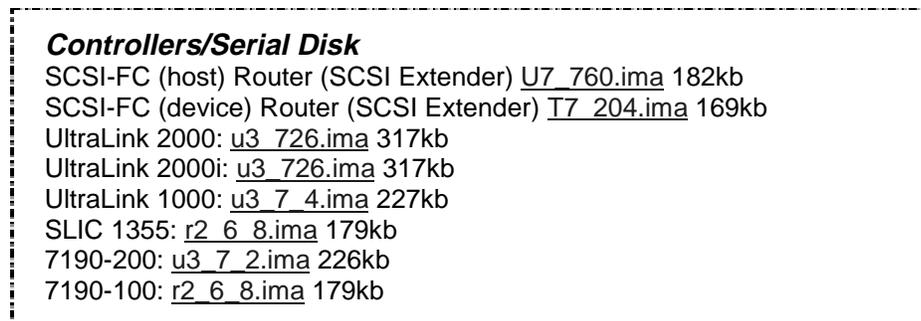

Figure 2-1. Vicom's Microcode Download Web Page
- To check the SCSI-FC Router microcode using the serial port, see section 6.2.5 Display VPD. See section 6.2.5.1 About - Display VPD, item 2 to determine microcode location on the VPD screen.
- d) Click the Controllers/Serial disk link. This will open the **Controller/Serial disk** page as displayed in Figure 2-1.